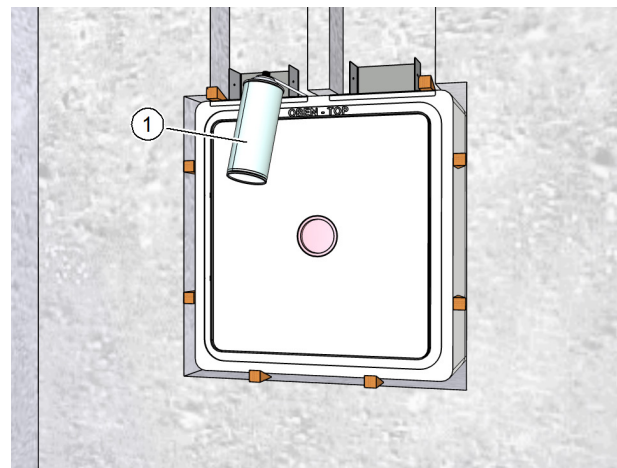

Fig. 16: Filling gaps around the wall box with foam
- ▶ Fill the gaps between the wall box and wall breakthrough all around and continuously with expanding foam (item 1 in Fig. 16) or using another insulating material.